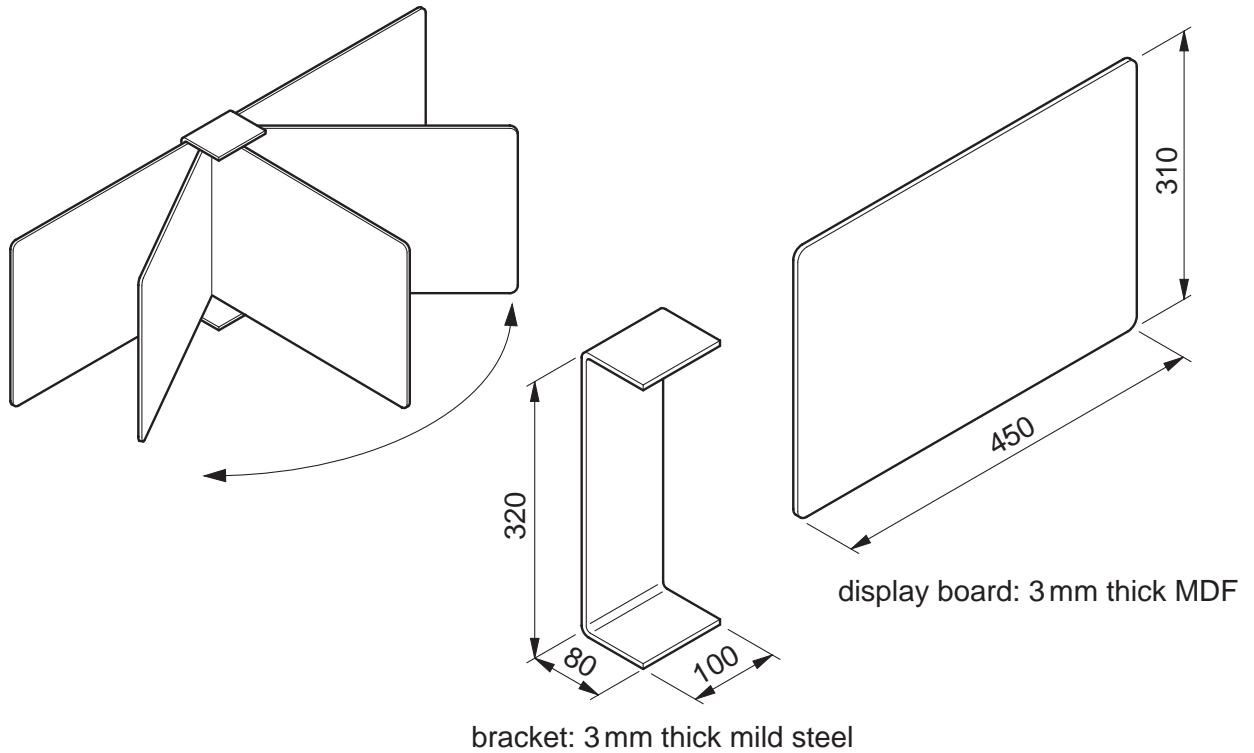

Fig. 7
- 4 Fig. 7 shows details of a wall mounted display system used in a school workshop. The system is used to display A3 size design sheets.
- (c) Use sketches and notes to show how the five display boards could be fitted to the bracket so the five display boards can swing as shown in Fig. 7.